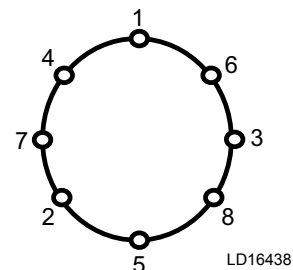

FIGURE 27 - TORQUE PATTERN
1. Clean and lubricate all screw threads, unless plated, before tightening. All threaded fasteners (bolts, nuts or cap screws) shall be tightened per sequence shown in *Figure 27 on page 45* for an eight fastener joint. Use a similar sequence for joints with a greater number of bolts.